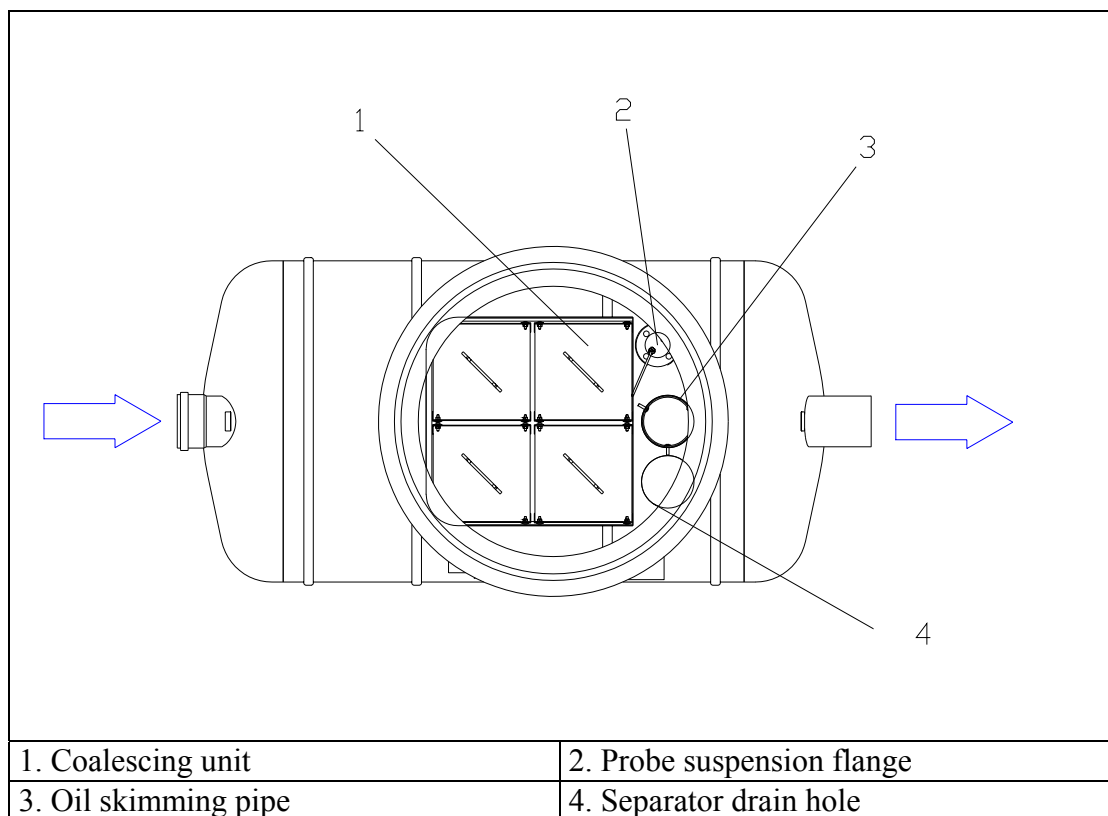

Figure 6. Maintenance of the oil separator.
2. Drain off the oil layer as the full storage volume is reached, or at least after every six months. The oil is drained manually through the oil skimming pipe of the separator (see figure 6). If there are two maintenance shafts in the separator system, the skimming pipe is in the second shaft. When skimming the oil layer or draining the tank, be careful not to damage the coalescing units.
2. Drain the separator tank for inspection through the drain hole (see figure 6) and remove the coalescing units from the separator.
1. Start the cleaning by draining the separator completely through the separator drain hole (see figure 6). Lift the first coalescing unit straight up through the maintenance shaft with a hoist or crane. Take out all the coalescing units starting on the side of the outlet and moving forward towards the inlet.